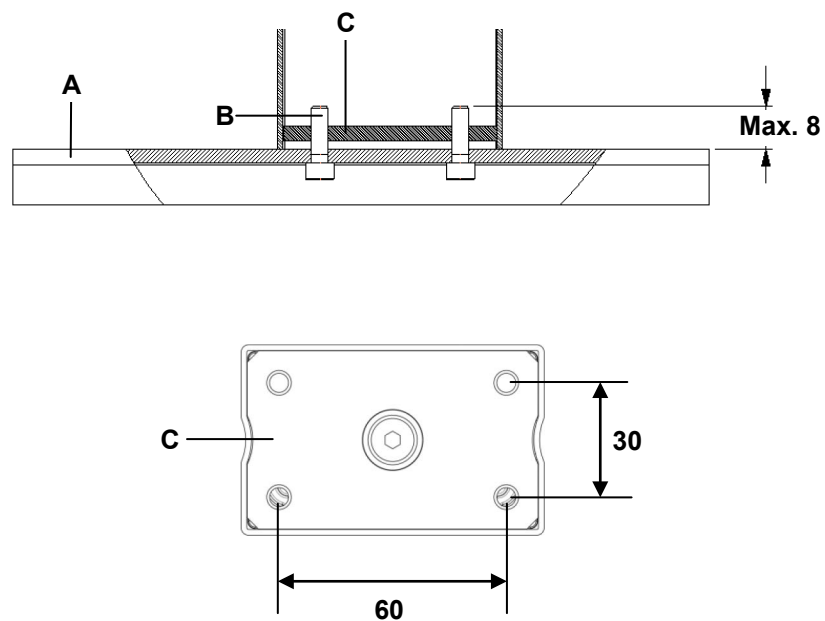
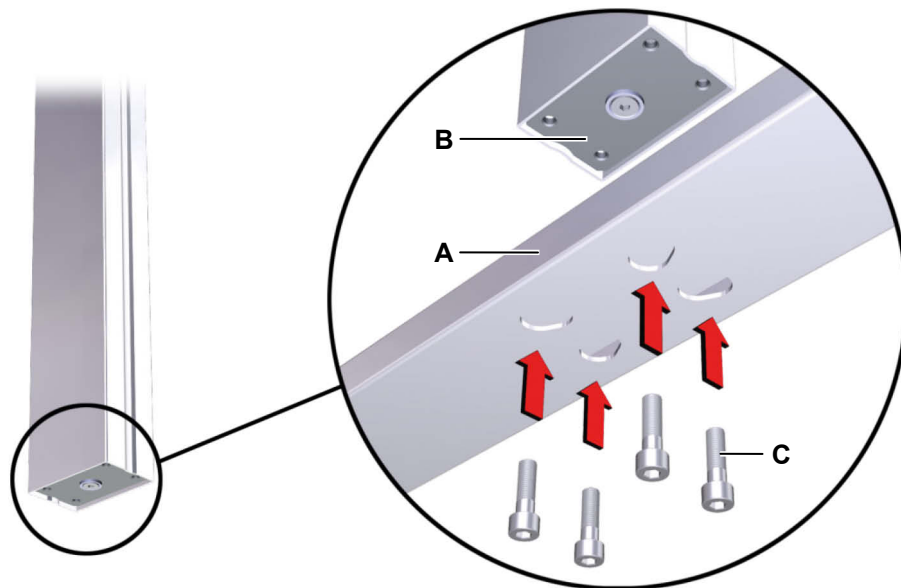

Figure16 Mounting the table base (dimensions in mm)
Figure 17 Mounting the table base:
- Use M6 bolts (with strength grade 8.8), as shown in Figure16. The tightening torque must not exceed 10 Nm.
- 1 Use four screws to attach the table base to the foot end of the DD11/DD21 lifting columns, as shown in Figure 17 (maximum tightening torque is 10 Nm). The mounting dimensions are shown in Figure 16.